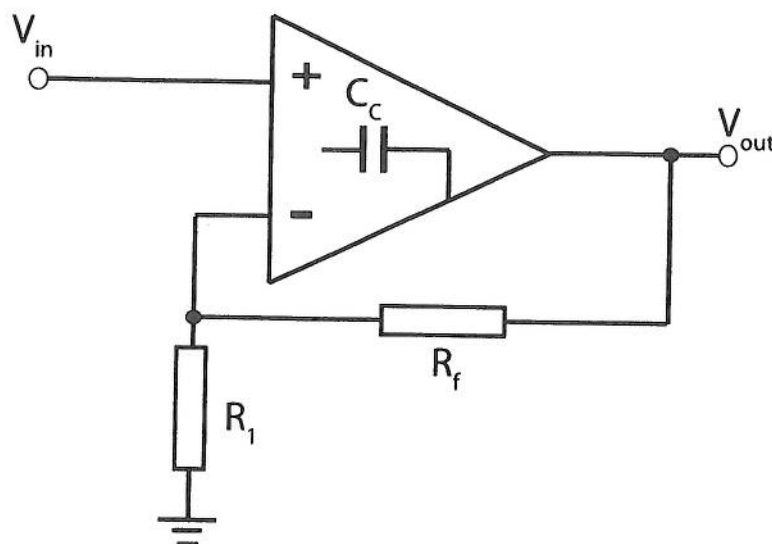

Figure 2.
- (b). Figure 2 below shows a 2-stage non-inverting amplifier, whereby  $R_f$  and  $R_1$  are the gain resistors and  $C_c$  is the compensation capacitor used internally for frequency compensation, which is connected from the output of the first stage to the output of the op-amp.
- (ii). Assuming now that the circuit in Figure 2 is a current feedback op-amp with a pole,  $f_{CL}$ , at 10 KHz is given as: